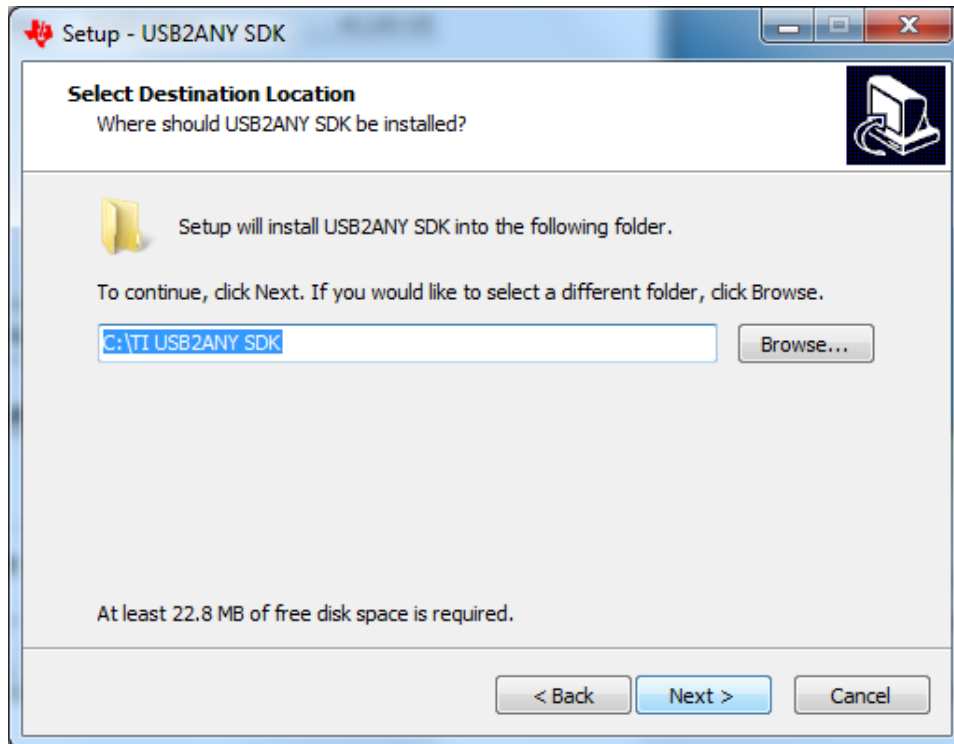

Figure 25. USB2ANY Destination Directory
- Set the destination directories for the USB2ANY installation and click the *Next >* as shown in Figure 25.